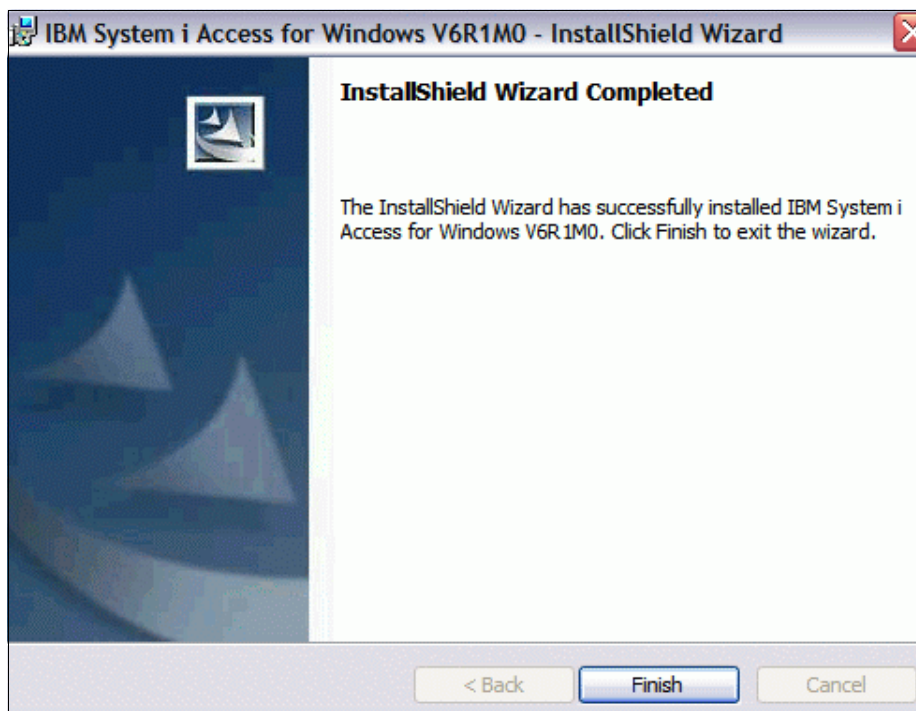

Figure 7-18 IBM System i Access for Windows installation completed
10. Figure 7-18 on page 269 indicates the installation process was successful. Click **Finish** to continue.